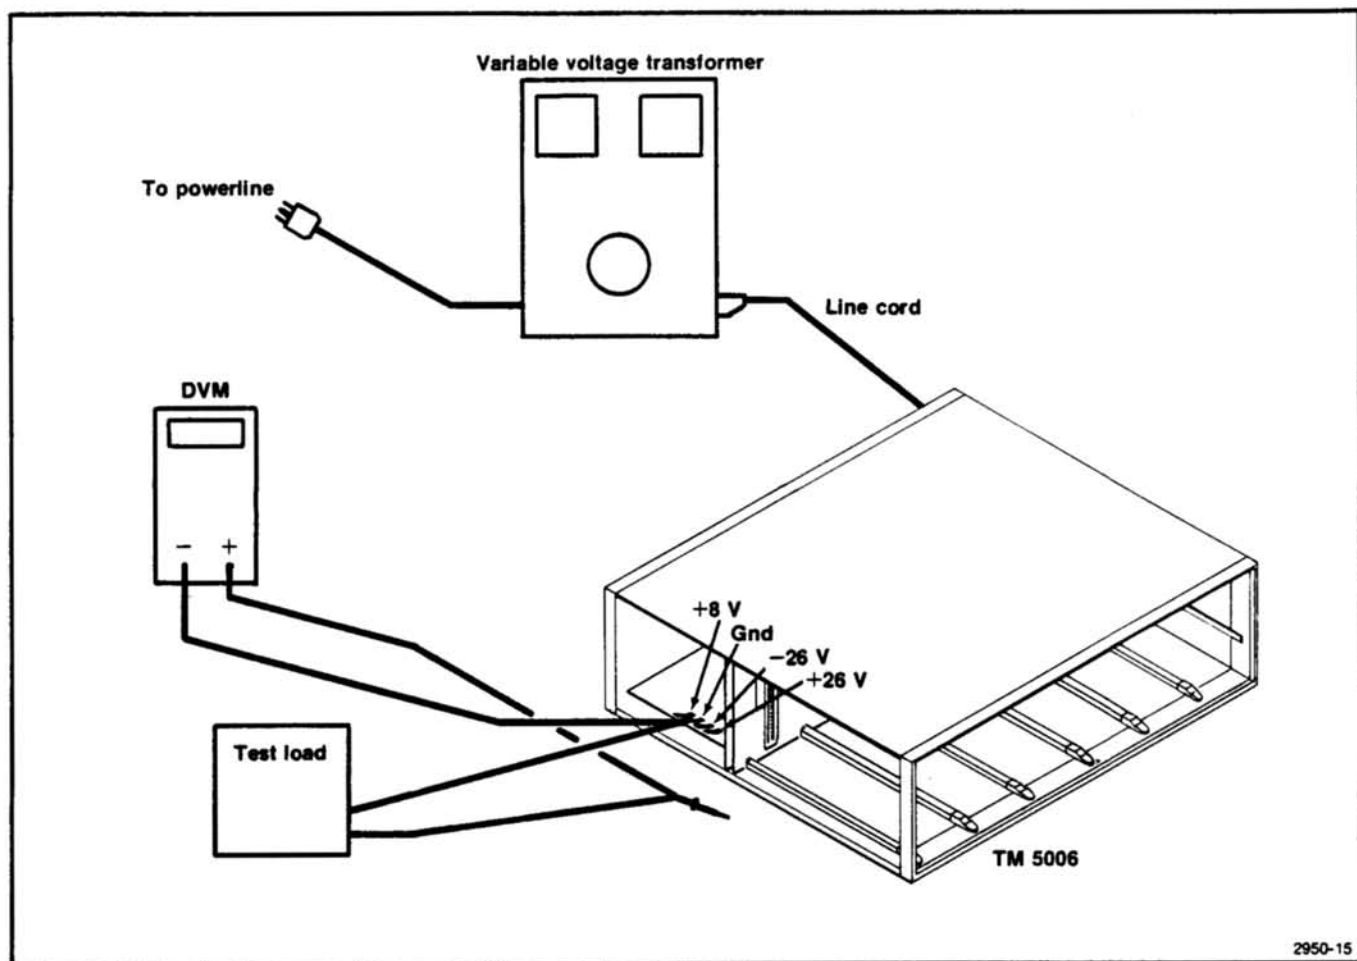
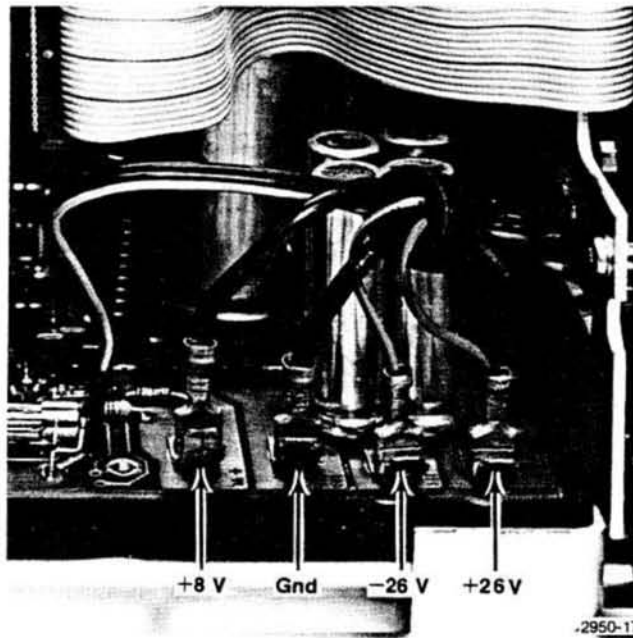

Fig. 4-2. Test setup for performance check steps 1, 2 and 3 and location of connections for adjustment step 1.
Fig. 4-5. Location of voltage buses.
- Connect the test equipment as shown in Fig. 4-2. Adjust the line voltage to the TM 5006 for 10% below the nominal line voltage. (Nominal line voltage is the line voltage the instrument is set to operate on.)
- Connect the test equipment as shown in Fig. 4-2. Adjust the line voltage to the TM 5006 for 10% below the nominal line voltage.
- Connect the dvm to the +8 V and Gnd terminals as shown in Fig. 4-2. The voltage bus location is shown in Fig. 4-5.